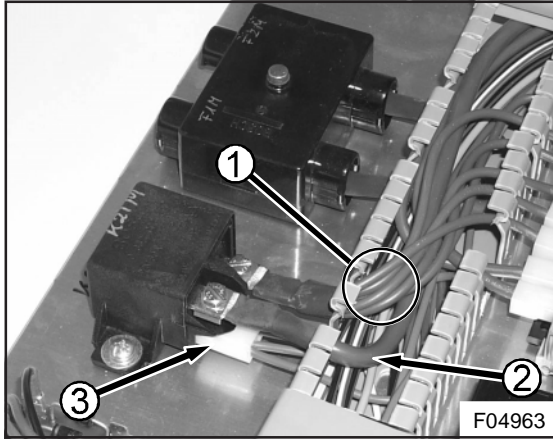

Figure 3 : old style relay
3. Pull back the cover of the wire duct below the relay. Temporarily tie up the bundle of red 14AWG wires going from the right-hand relay terminal to the fuses below the cable duct (see 1, Figure 3).
4. With cutter pliers, cut-off all wires attached to the K21M relay, as close as possible to the two ring terminals and the multiwire connector (see 1, 2 and 3, Figure 3).